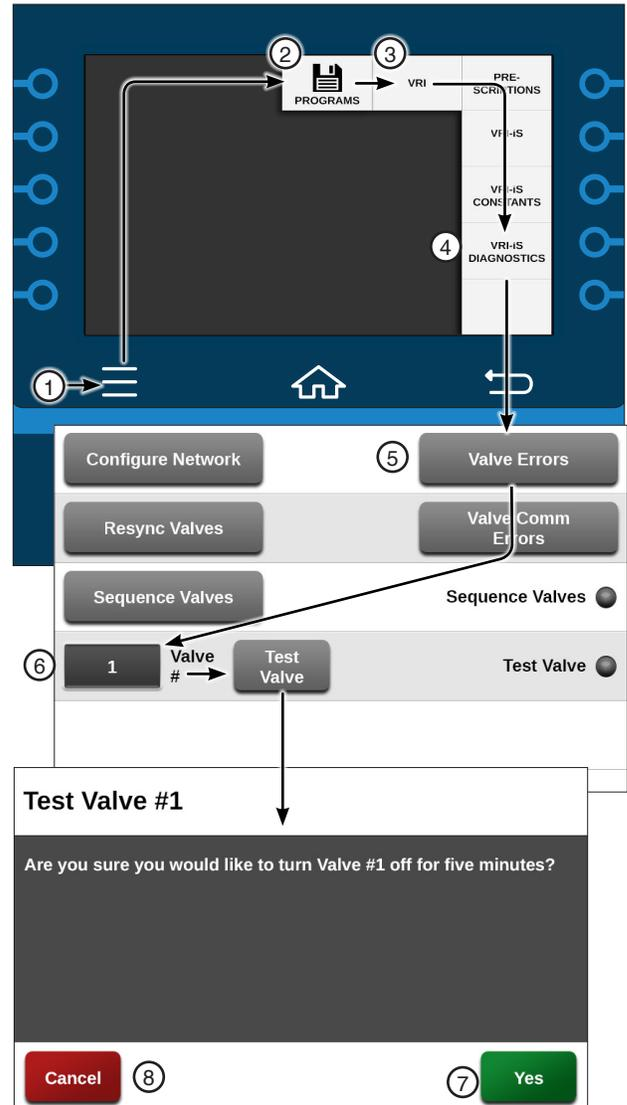

Figure 183-1 1. Menu 6. Valve #
1. Push **Menu**, **Programs**, **VRI** and **VRI-iS Diagnostics** to display the VRI-iS Diagnostics screen. Refer to Figure 183-1.